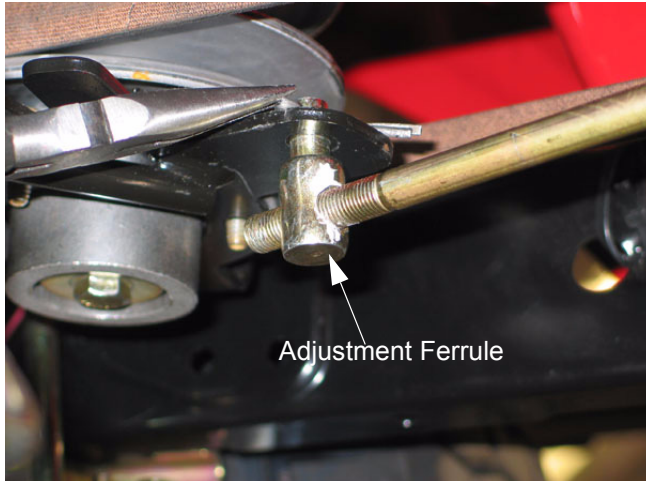

Figure 12.3
- 12.3. Remove the cotter pin from the ferrule on the top side of the variable speed pulley bracket. See Figure 12.3.